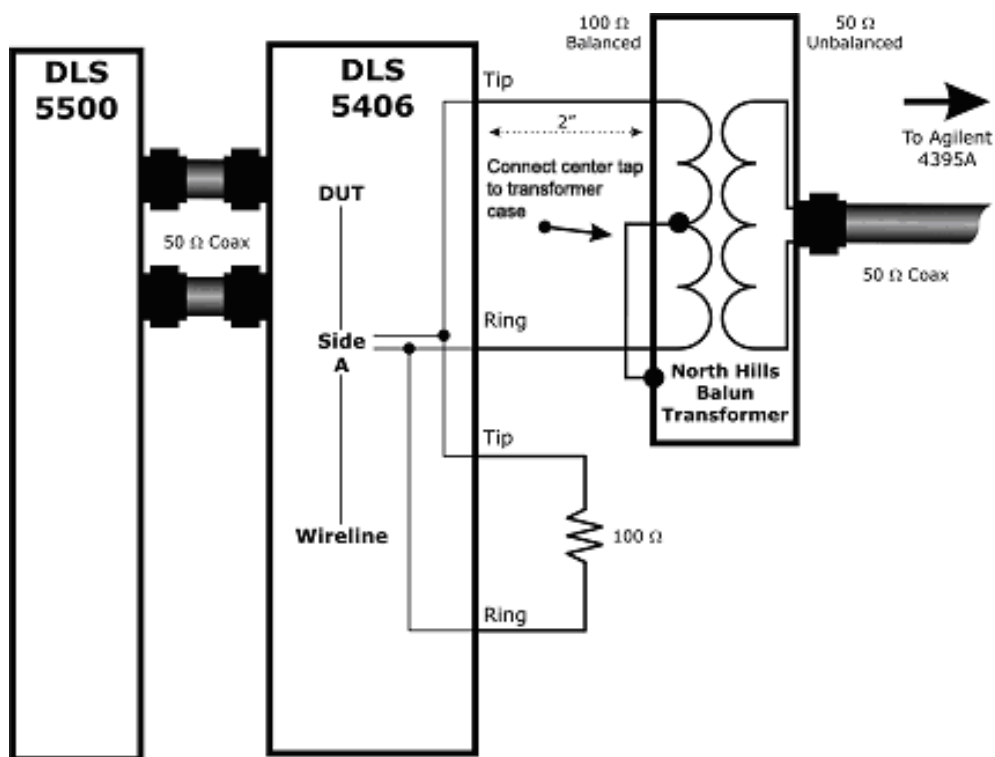

Figure B-1. Calculating Gain/Injector Attenuation
- 3 Connect the Noise Injection Circuit as shown in Figure B-1 and apply a fixed load to the output of the circuit with a Balun to match the load impedance.